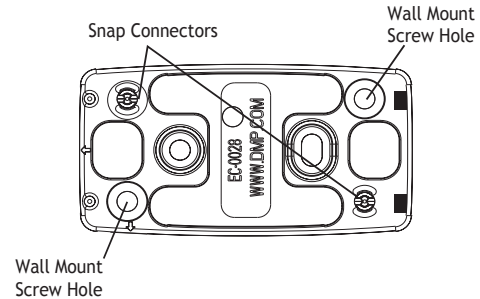

Figure 3: Optional Mounting Bracket
- Verify that the XR100/XR500 panel XMIT and REC LEDs alternately flash on and off at a rate of 1/4 second each. If the LEDs are On steady or Off, the panel and receiver are not communicating properly. (See Figure 3).